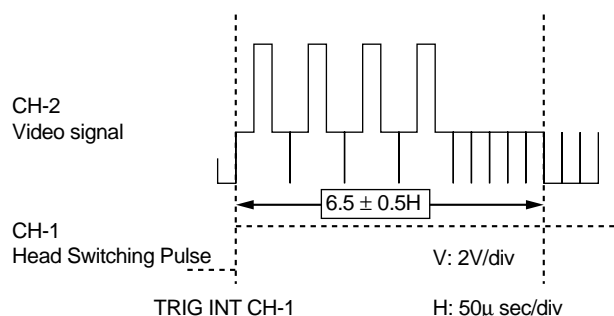

Figure 5-2.
6. Adjust R875 so that the leading edge of the head switching pulse is 6.5H (lines) a head of the vertical sync as shown in Figure 5-2.